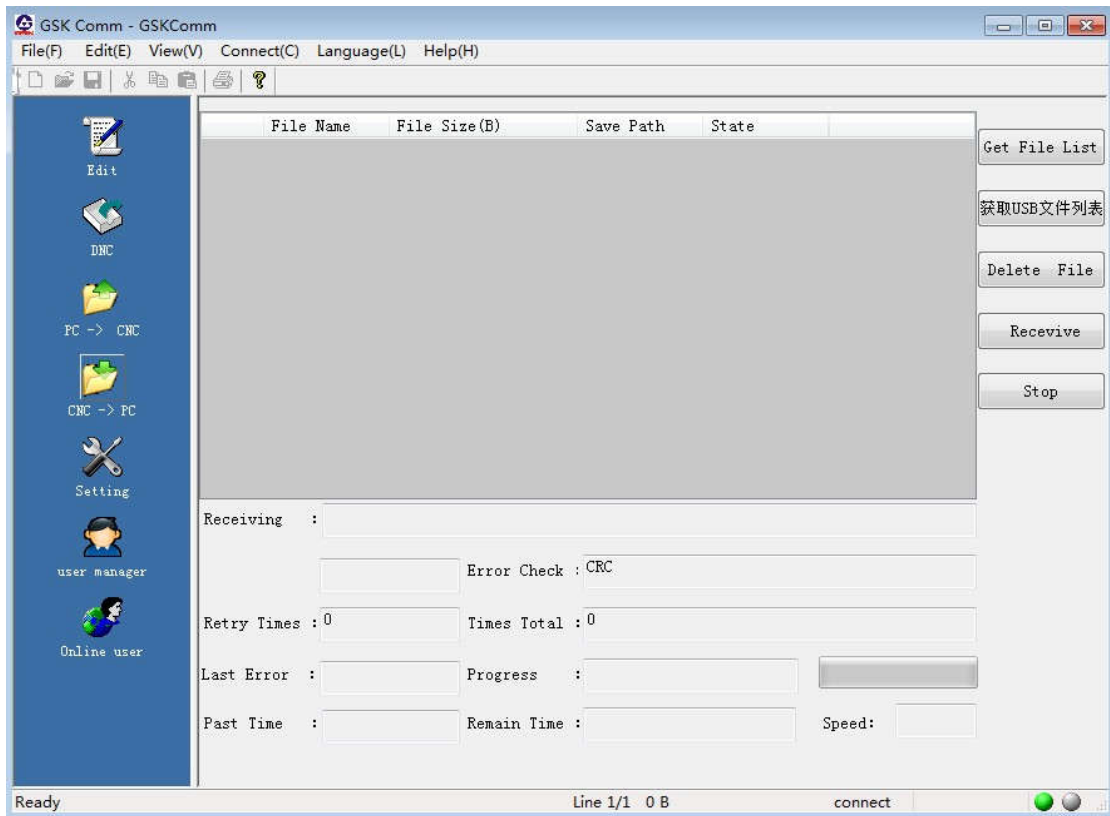

Fig. 11-2-2-1
3. Click  to get obtain the file list on CNC, as shown in Figure 11-2-2-2.